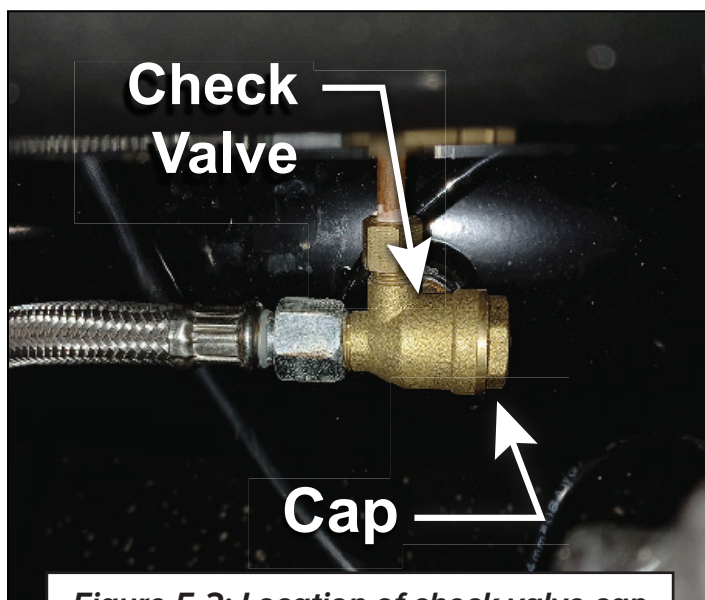

Figure 5-2: Location of check valve cap
4. Remove cap, shown in Figure 5-2, from check valve. Located on back of tank beneath frame.